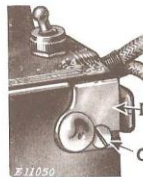

FIG. 31. BOBBIN WINDER TENSION BRACKET
If the thread does not wind evenly on the bobbin, loosen the screw (C, Fig. 31) which secures the bobbin winder tension bracket (D, Fig. 31), and move the bracket to the right or to the left as required. Then securely tighten screw (C).